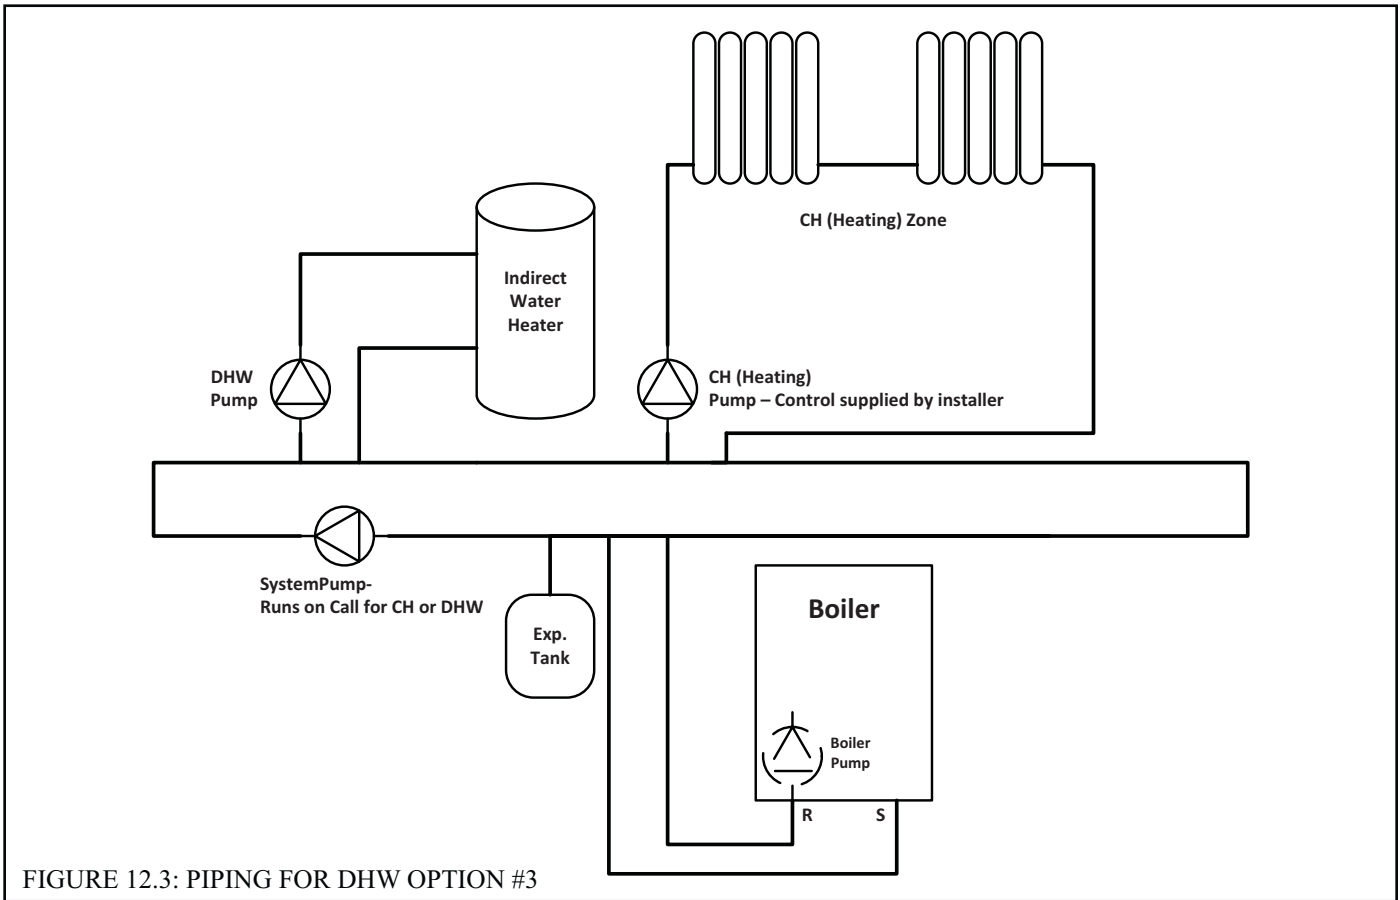

FIGURE 12.3: PIPING FOR DHW OPTION #3
**Option #3: System Pump Used for Both CH and DHW, No DHW Priority Pumping** – An example of this system is shown in Figure 12.3, When this option is selected, the system operates as follows: